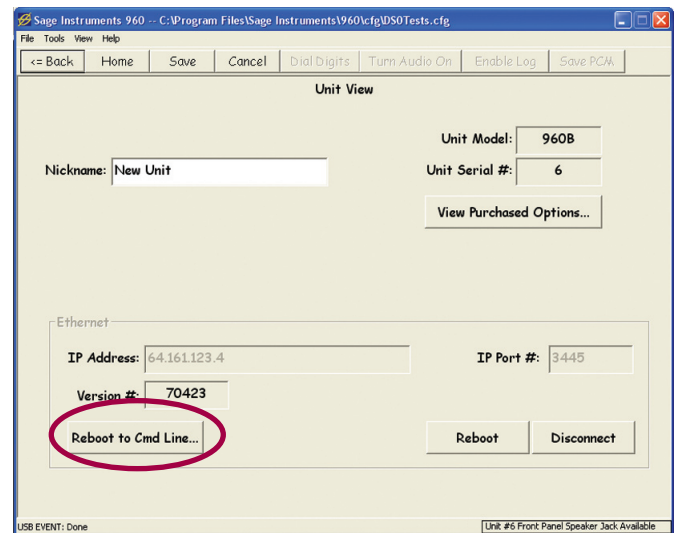

Figure 1 Configure Unit Window
A. From the Home window click on any interface, then click the “Configure Unit...” button. This will bring up the Configure Unit window in Figure 1.
B. Click on the “Reboot to Cmd Line...” button circled in Figure 1. This will cause the remote 960 to go into command line mode. Be sure to wait several minutes before attempting to access the 960 while the reboot process completes.